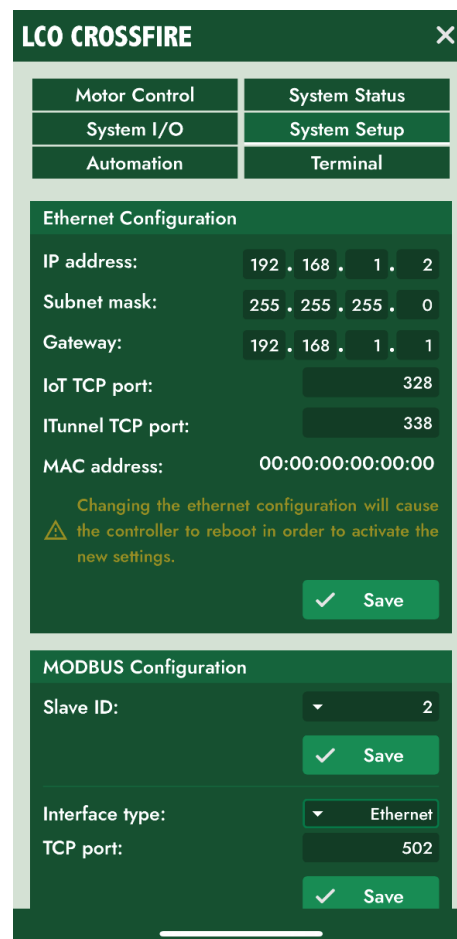

Figure 7: Mobile App – System Setup – Ethernet
- o Select “interface type” as Ethernet (figure 7)